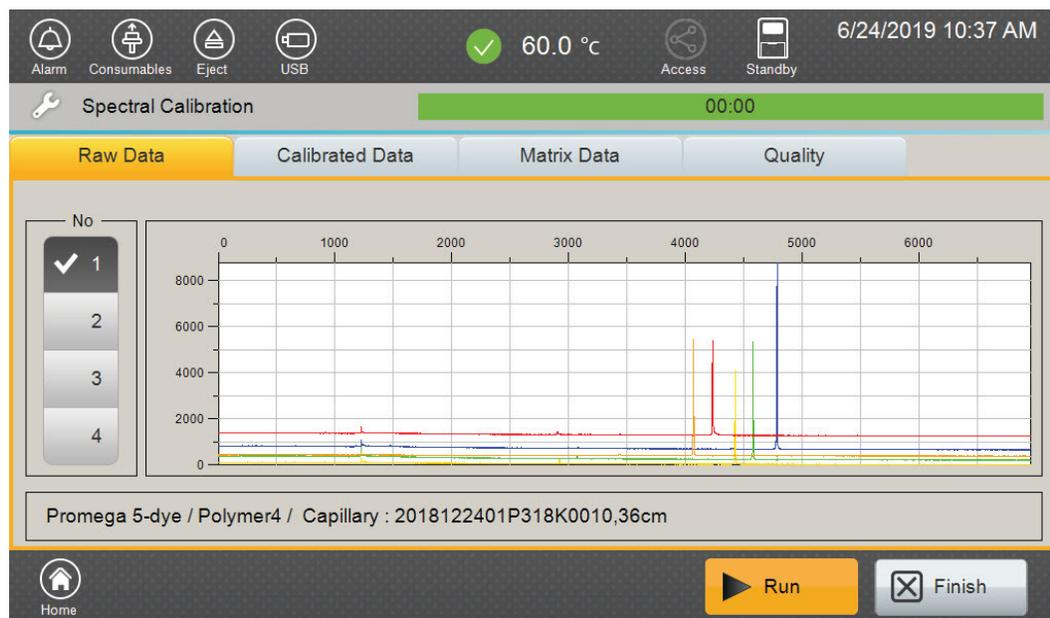

Figure 24. Spectral Calibration 'Raw Data Tab' screen.
1. Following the run, the 'Raw Data' tab (Figure 24) will be displayed. The minimum peak height for spectral calibration is 500 relative fluorescent units (RFU) and the maximum peak height is 32,767RFU.